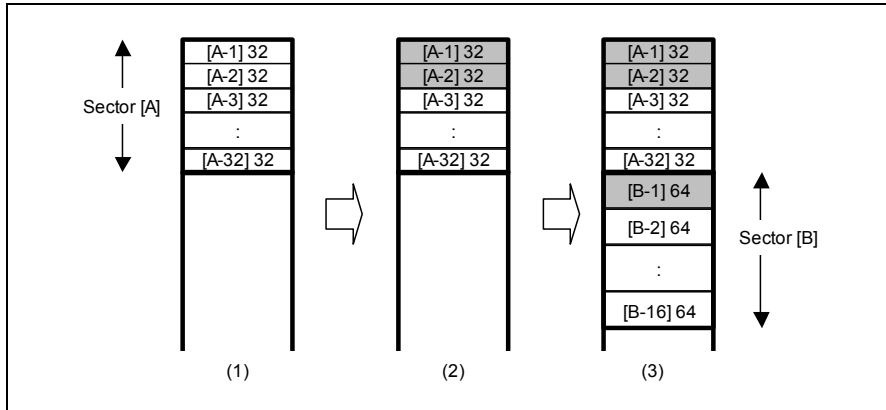

Figure 2.14 Example of Variable-Size Memory Pool
Figure 2.14 shows an example of a variable-size memory pool when the minimum block size is 32.
First a 32-byte memory block is requested. Sector [A] with $32 \times 32 = 1024$ bytes is allocated and 32-byte area [A-1] in the sector is assigned for the requested block (figure 2.14 (1)). When a 16-byte memory block is then requested, 32-byte area [A-2] in sector A is assigned (figure 2.14 (2)).
Next, a 36-byte memory block is requested. Since the size of each block in sector A is 32 bytes, no block in sector A can be assigned for this request. To respond to this request, new sector [B] is allocated for 16 blocks \times 64 bytes (the requested size, 36, is rounded up to a multiple of the minimum block size) = 1024 bytes, and 64-byte area [B-1] is assigned for the requested block (figure 2.14 (3)).